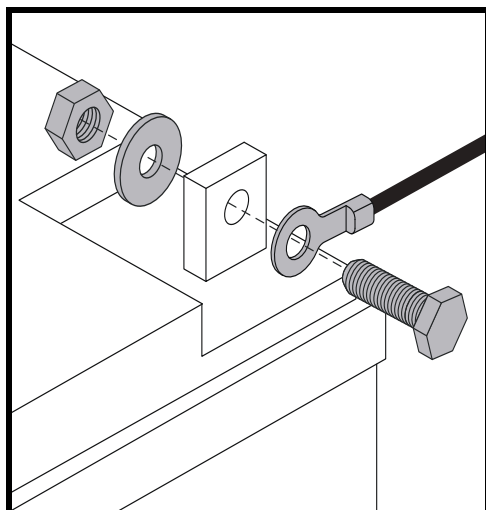

Figure 12. Battery Terminal Hardware
4. Disconnect the battery cables from the battery terminals by sliding back the terminal boots and unscrewing the nut from the bolt. See figure 12.